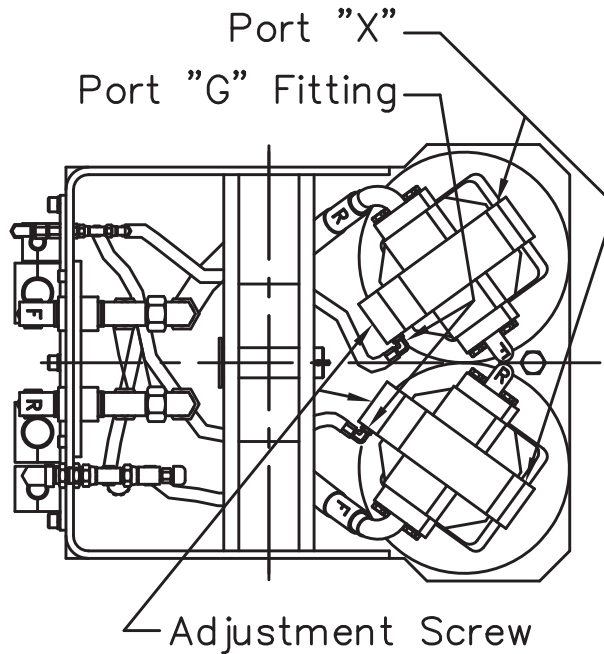

Fig 2
2. With the engine warmed-up and running at 1000 RPM, loosen the hose Port "G" Fittings on each motor. Turn the AUTO-MAX-HALF switch to MAX. Wait until oil flows from the connections. When oil flows without air, tighten Port "G" Fittings and turn switch to Auto. Turn switch to Max and back to Auto five times. Turn switch to Max and loosen the hose Port "G" Fittings on each motor again till you see oil flowing with out air to confirm the air has been removed from the hoses tighten Port "G" Fittings. Turn switch back to Auto. See (Fig 2) above for the Port "G" Fittings.
2. Install a 3,000 psi gauge in the "X" port of each motor, this port is on the opposite of the end cap from the adjustment screw. As shown in Fig 2.